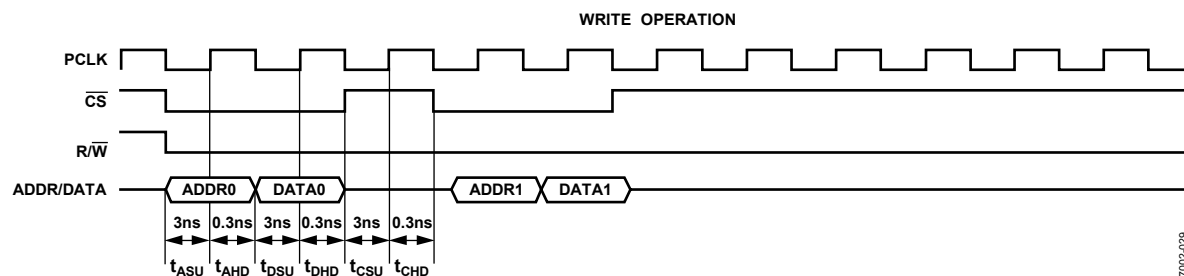

Figure 34. Parallel Port Write Timing
5. The IO\_UPDATE is not shown in Figure 34. The IO\_UPDATE transfers the contents from a write sequence to the active register. See the Register Update (I/O Update) section.
Write operations work in a similar fashion as read operations except that the user drives the bus for both PCLK cycles. A typical write access follows the steps shown in Figure 34.